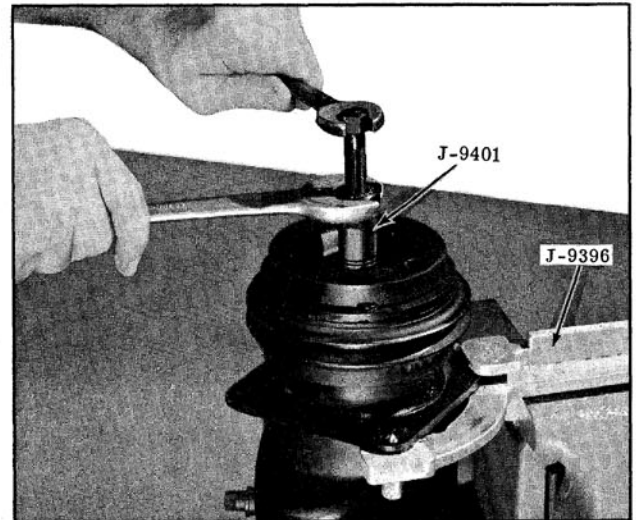

Fig. 14-76 Removing Driven Plate
2. Install Puller J-9401 into hub of driven plate. Hold main body of tool and turn forcing screw clockwise to remove driven plate. (Fig. 14-76)